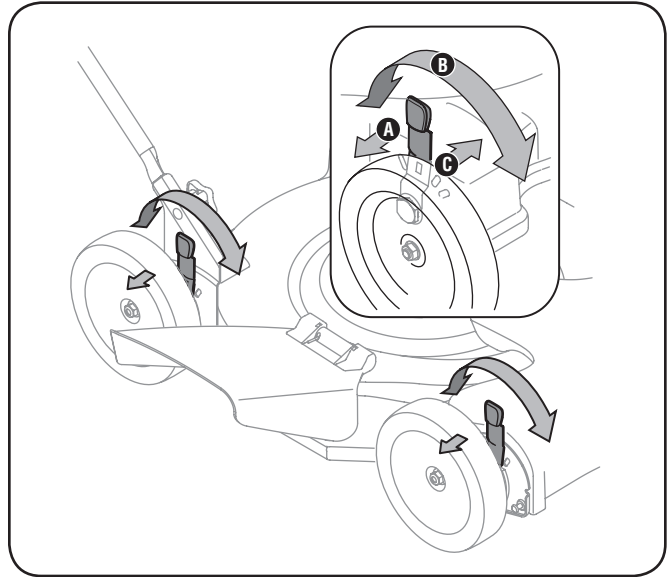

Figure 3-7
- b. Slide lever to desired position for a change in cutting height. See Fig. 3-7.